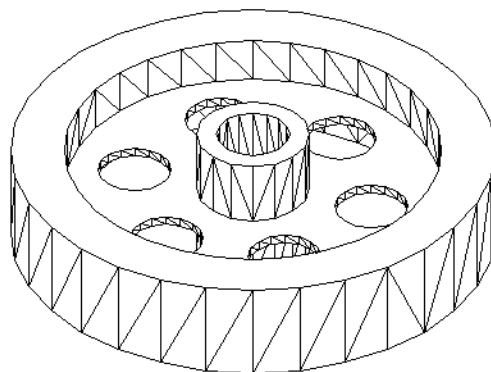

Figure 24-19: The final model after using the UNION command to create one object from three.
10. Save your drawing. It should look like Figure 24-19. If you're continuing on to the next exercise, leave it open.